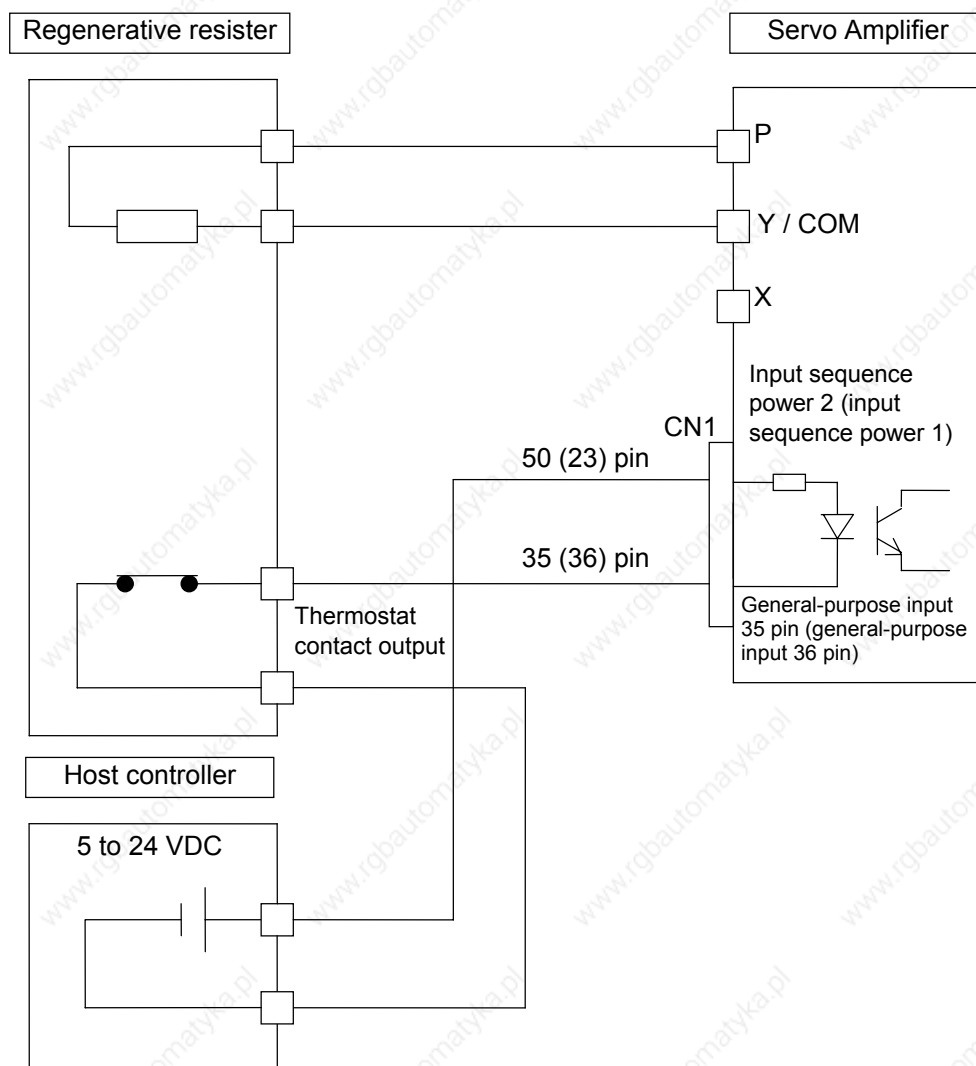

Fig. 9-28 Typical External Regenerative Resistor Connecting Diagram
- 3 For an external regenerative resistor with a thermostat installed, protect the resistor by connecting it to the amplifier as in Fig. 9-28 or connecting the thermostat contact output to the host controller.